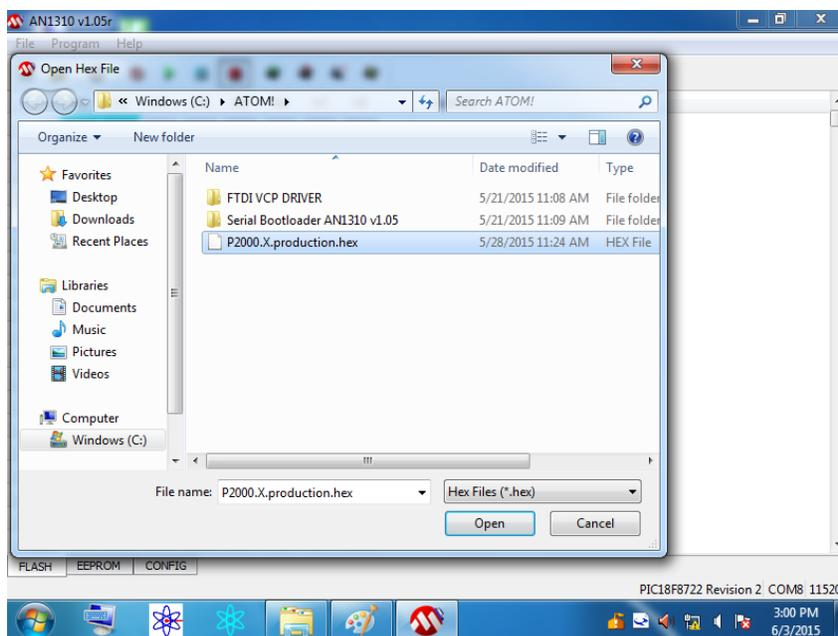

Figure 3.18
- 8. Select the **P2000.SGA.X.production.hex** file located in **C:\ATOM!** and click **Open** (Figure 3.18). This new software file that was previously copied in folder (Refer to Step 3 of the Moving files section).